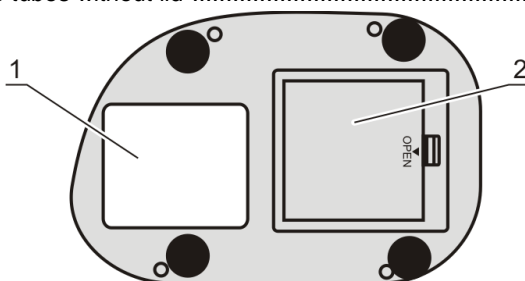

Figure 1. View from below
- (for **DEN-1B**) Battery installation. Pull back the pin on the battery compartment (fig. 1/2) on the underside and open lid. Insert batteries as shown on the scheme inside and close the lid.
4.4. **Factory calibration.** The device is pre-calibrated at the factory for operation with the glass tubes 16 mm in external diameter (see the label on the bottom side of the unit, fig. 1/1) at temperature range from +15°C to +25°C and saves calibration data when being switched off.
- 6.1. The unit is pre-calibrated at the factory for operation with the glass tubes 16 mm in external diameter (see the label on the bottom side of the unit, fig. 1/1) at temperature range from +15°C to +25°C and saves calibration data when being switched off. To use different types of tubes, recalibrate the unit as shown below.